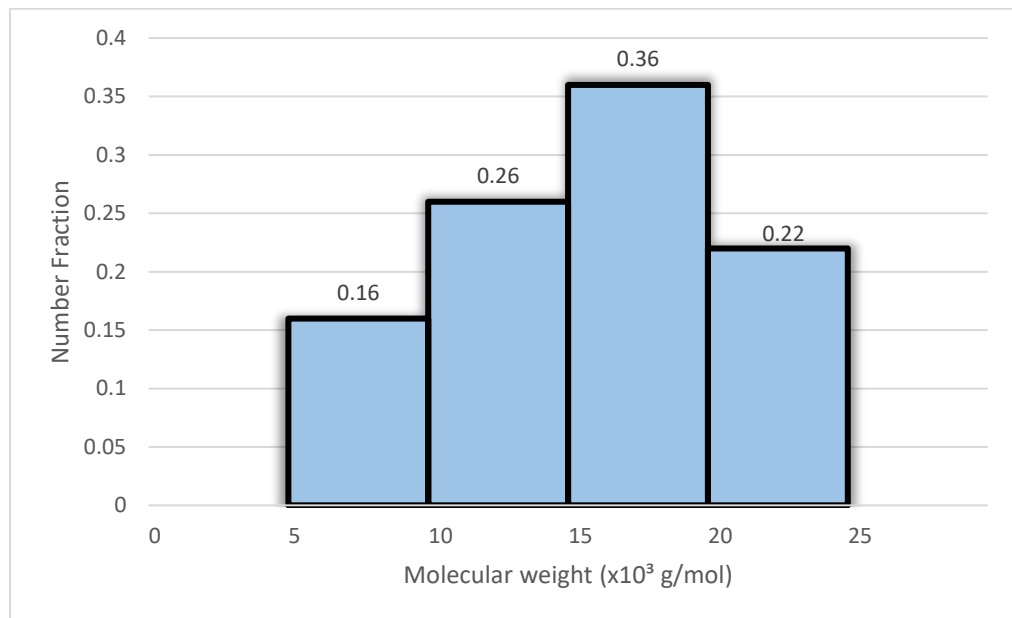

Figure 1c(i): Molecular Weight Data / *Rajah 1c(i): Data Berat Molekul*
- i. Figure 1c(i) shows the molecular weight data for polybutadiene during the production process of ABS plastic. Calculate the degree of polymerization of this polymer.